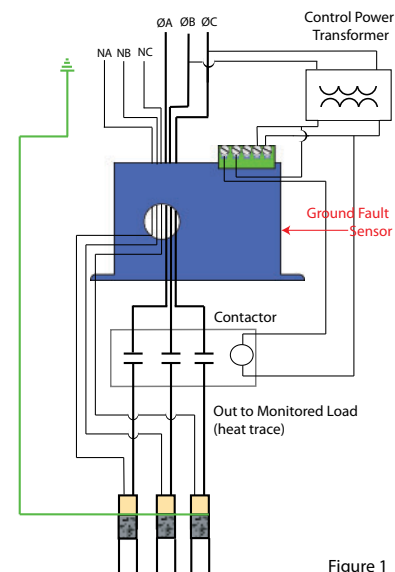

Figure 1
The most common installations use a cable connecting one phase to neutral or one phase to another phase. If both current carrying conductors pass through an NK Technologies’ ground fault sensor, the magnetic field produced by the AC current in one conductor will be cancelled out by the return current in the other conductor. Over time when the cable insulation begins to break down or is damaged and the conductor is exposed, there will be some current passing to ground. When this occurs, the NK Technologies’ sensor will open a contact to de-energize the operating coil of the contactor supplying the cable power. (Fig. 1)
When a ground fault current exceeds 5 mA NK Technologies AG, or AGL, ground fault current relay will respond "within an established period of time", refer to figure 1. When circuit interrupter (CI) receives a fault signal from the relay, CI will de-energize the branch circuit or portion thereof.